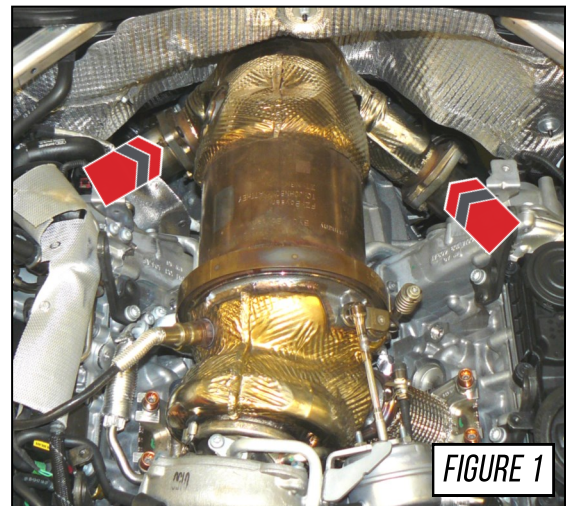

FIGURE 1
Start by removing the two (2) 12mm nuts on the driver side flange along with the three (3) 12mm nuts on the passenger side flange, as shown by the arrows in **Figure 1**. Five (5) nuts in total can be accessed from the engine bay.